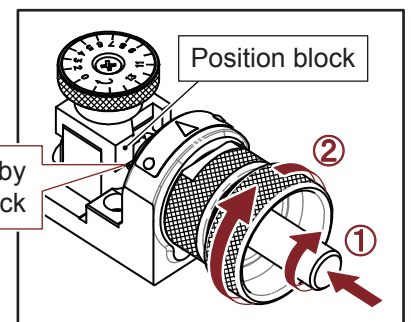

Fig. 4-6
4) Push the drill to the end and slowly turn it clockwise until it stops by the position block. (Fig. 4-6 step ①)
5) Turn the collet holder clockwise and tighten the chuck set to secure the drill. (Fig. 4-6 step ②)